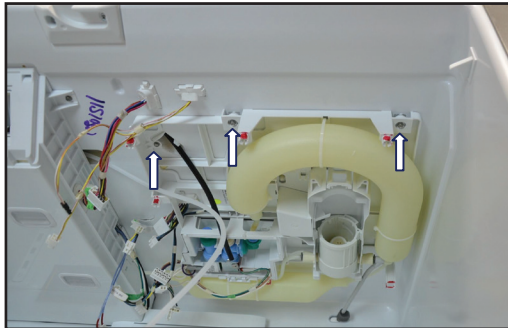

FIGURE 9
11. Remove 3, 1/4" hex head screws. See *Figure 9*.